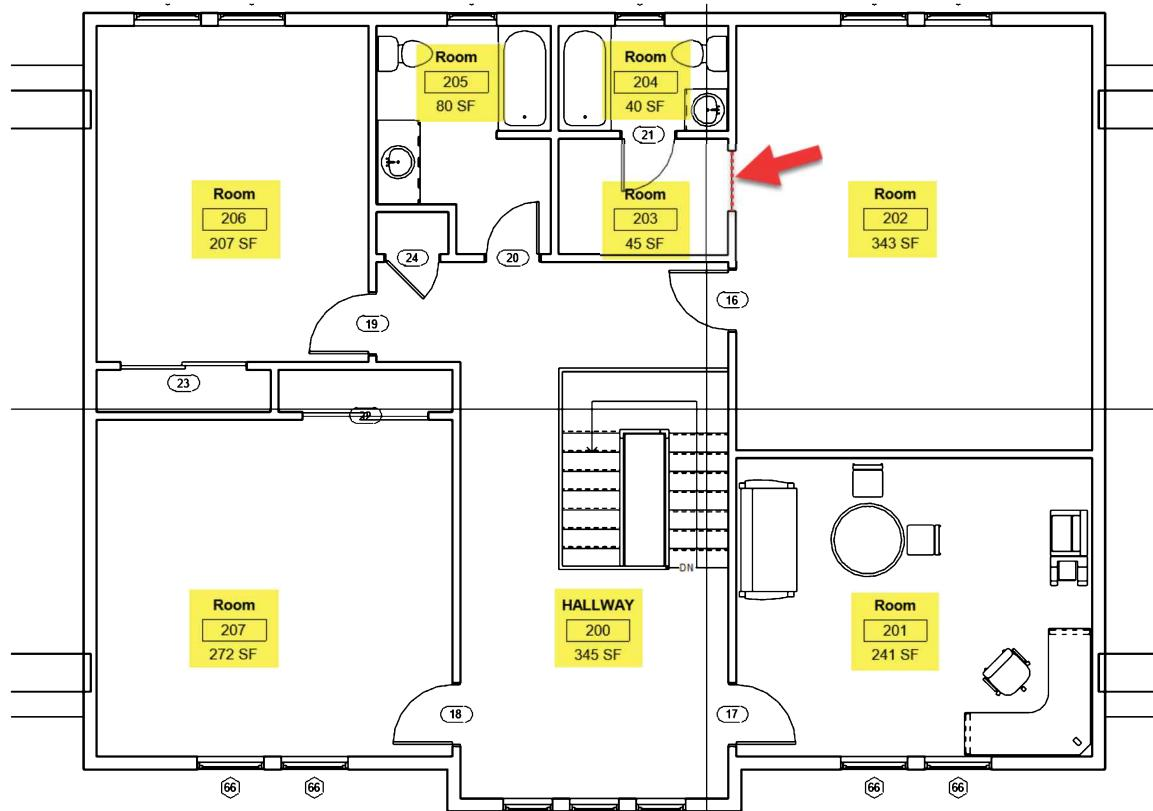

FIGURE 13-1.4 Second Floor – Room /Room tags
- Add *Rooms/Room Tags* to the *Second Floor*. The numbering should start with 200; place the first room and then change the number to 200. This will make the remaining rooms the correct number. Add the *Room Separator* as pointed out. Do **not** change the room names (Figure 13-1.4).